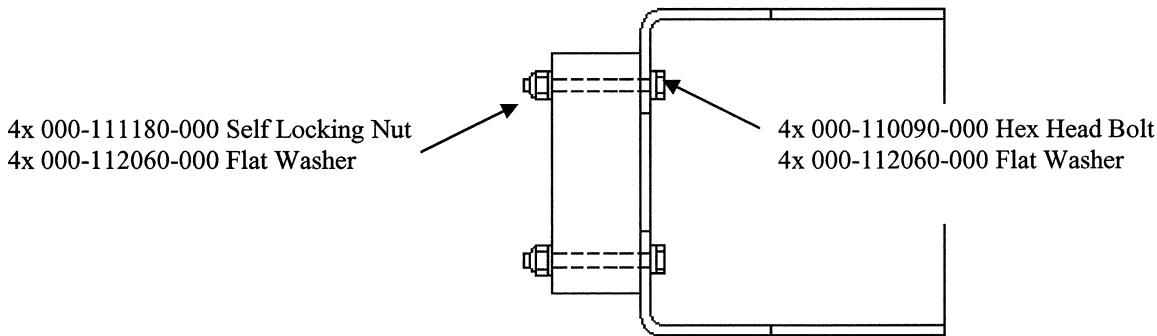

Figure 3
8. Attach the bearing block to the bearing block support weldment. Reference Figure 3.